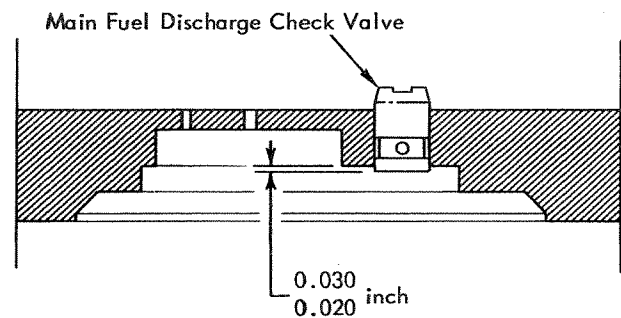

FIGURE 23
- If a new main fuel discharge check valve is to be installed, press it in as shown in Figure 23 to 0.020 to 0.030 inch above the bottom of the carburetor body.